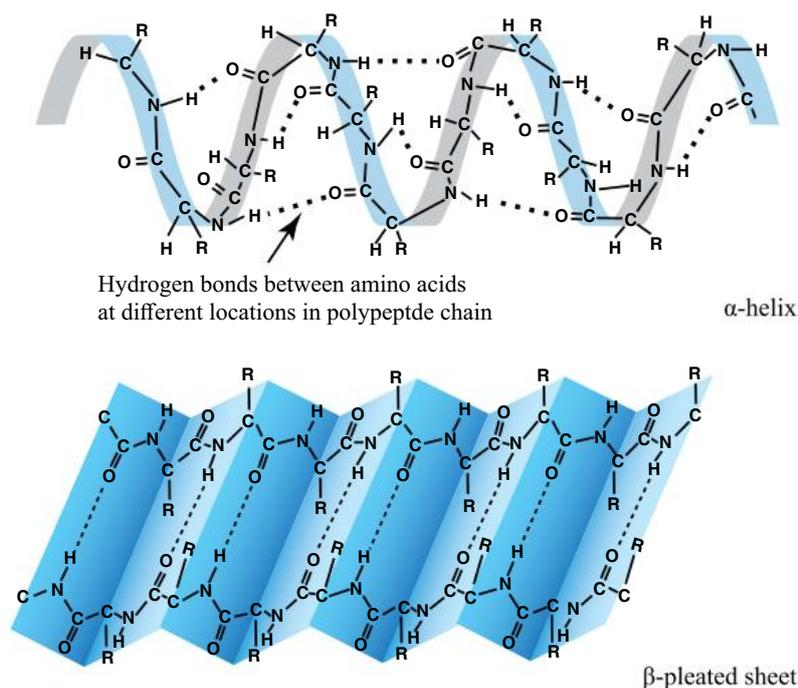

Figure 29.2: An α -helix and β -pleated sheets showing hydrogen bonding.
The interactions that stabilise these folds in the polypeptide chain are hydrogen bonds between the oxygen on the carbonyl group and the nitrogen on the amide groups. See figure 29.2
7. Once a series of amino acids have been linked together to form a polypeptide, that polypeptide (the protein's primary structure) is free to interact to form secondary structures. The two most common secondary structures are alpha helices and beta sheets. Using figure 29.2 to help answer the following questions.